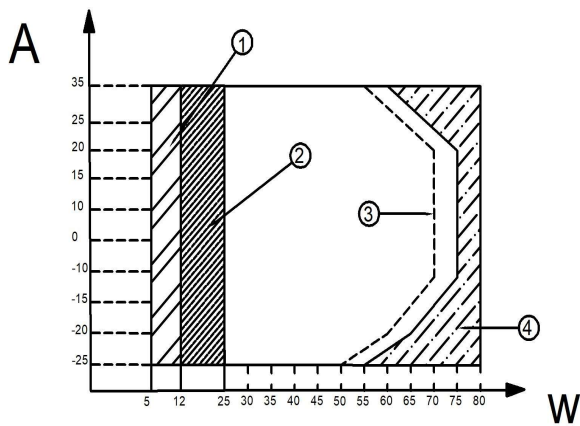

Figure 2-4
The flow temperature (W) range for different outdoor temperatures under heating mode (A) is shown in Figure 2-4 below: